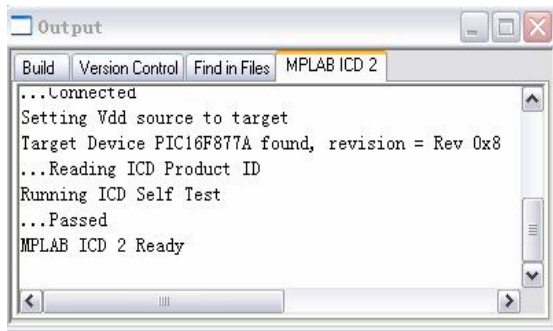

Figure 5-4 Connecting information
- 4) Implement menu command Debugger → Connect or icon in the tool bar to connect MCD2 and DEMO-II development board, and when it is successfully connected it will shown as in Figure 5-4 with a message.